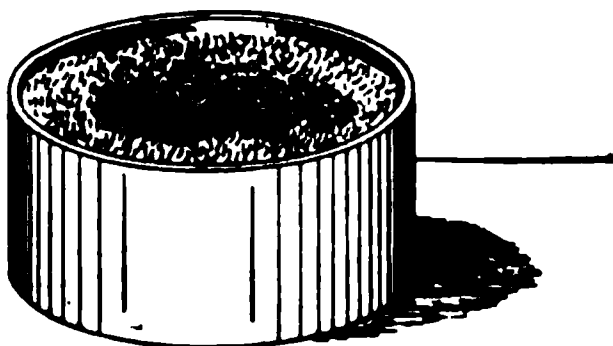

Fig. 9. Location of Poles of a Magnet
**Poles of a Magnet.** If a magnet is dipped into iron filings, the filings are observed to cling in tufts near the ends, but scarcely at all near the middle, Fig. 9. These places near the ends of the magnet, in which its strength seems to be concentrated, are called the poles of the magnet. It has been decided to call the end of a freely suspended magnet which points to the north, the north-seeking, or north pole, and it is commonly designated by the letter N. The other end is called the south-seeking, or south pole, and is designated by the letter S. The direction in which the compass needle points is called the *magnetic meridian*.